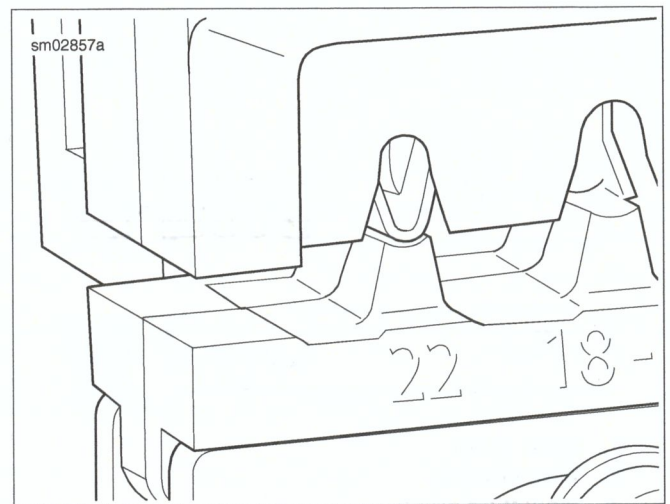

Figure A-21. Crimp Tails in Vertical Alignment between Punch and Die
6. See Figure A-21. Ratchet the handles together until the crimp tails are held in vertical alignment between the punch and the die.